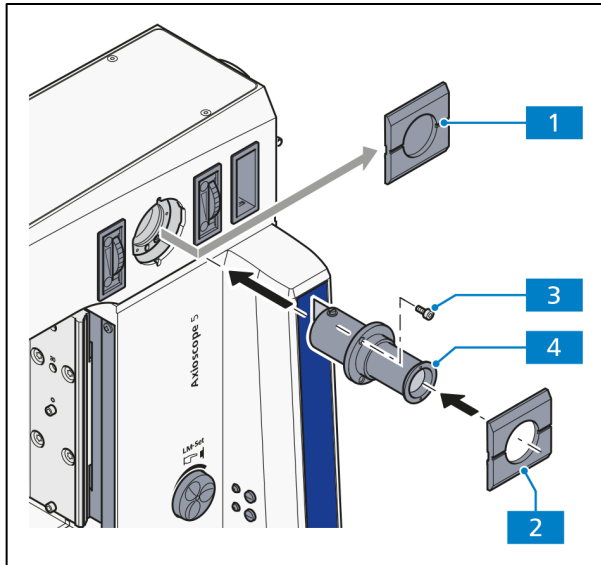

Fig. 3-32 Inserting the adjustment tool
- Remove the cover (Fig. 3-32/1) from the mounting aperture of the adjustment tool.
- Insert the adjustment tool (Fig. 3-32/4) and tighten the three included screws (Fig. 3-32/3).
- Attach the cap to the opening (Fig. 3-32/2). Make sure it locks.